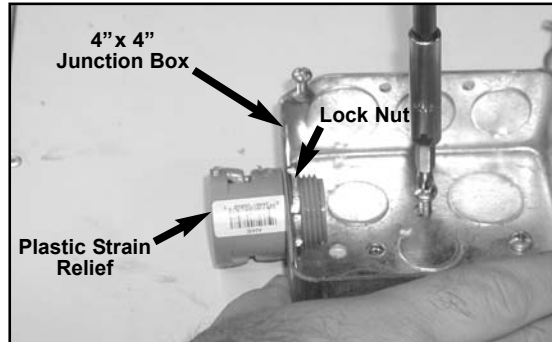

Figure 1
1. Mount 4" x 4" Junction Box at upper right side of Proof Box with supplied Tapping Screws. Apply Strain Relief with Lock Nut to side of Junction Box closest to Power Module. Refer to "TOP VIEW" on page 18 for approximate placement. See **Figure 1**.